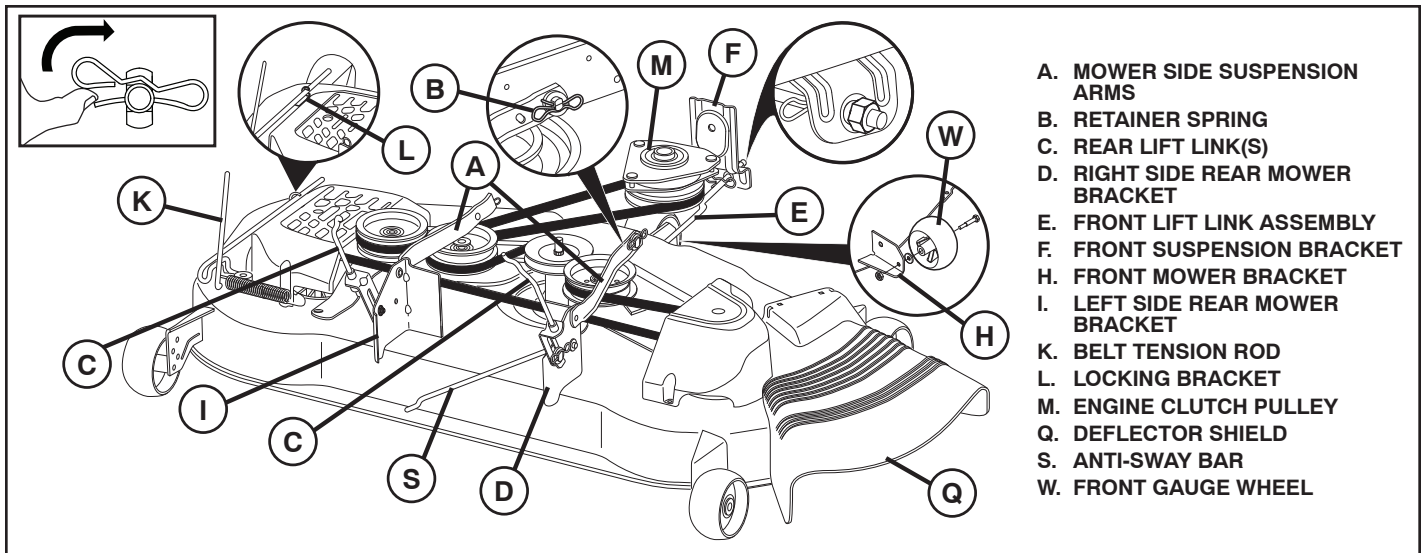

Fig. 6
## 9 INSTALL BELT ON ENGINE CLUTCH PULLEY (M) (See Fig. 6 & 14)
- Disengage belt tension rod (K) from locking bracket (L).
- Install belt onto engine clutch pulley (M).